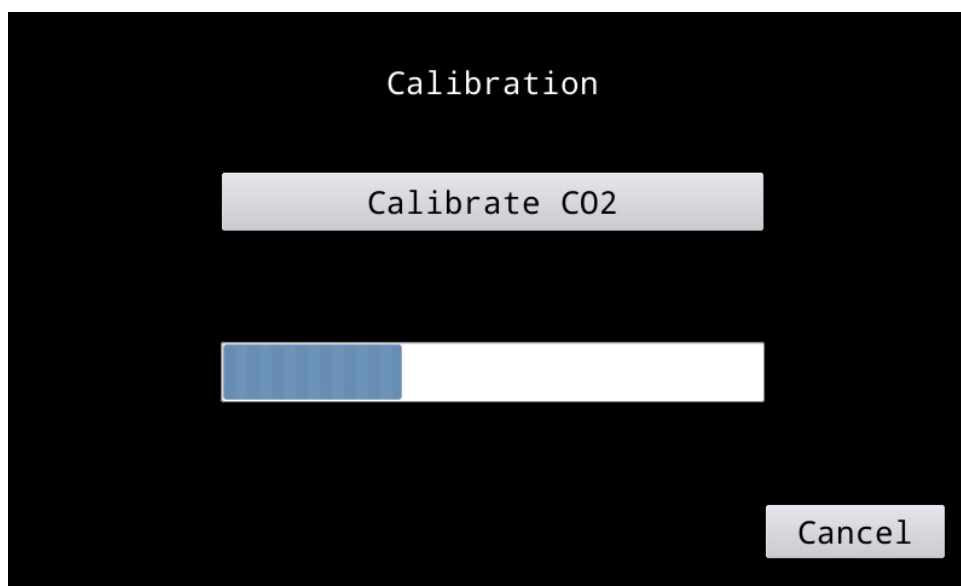

Figure 12. Calibration Screen
4. Press **Calibration**. Calibration screen (figure 12) displays.